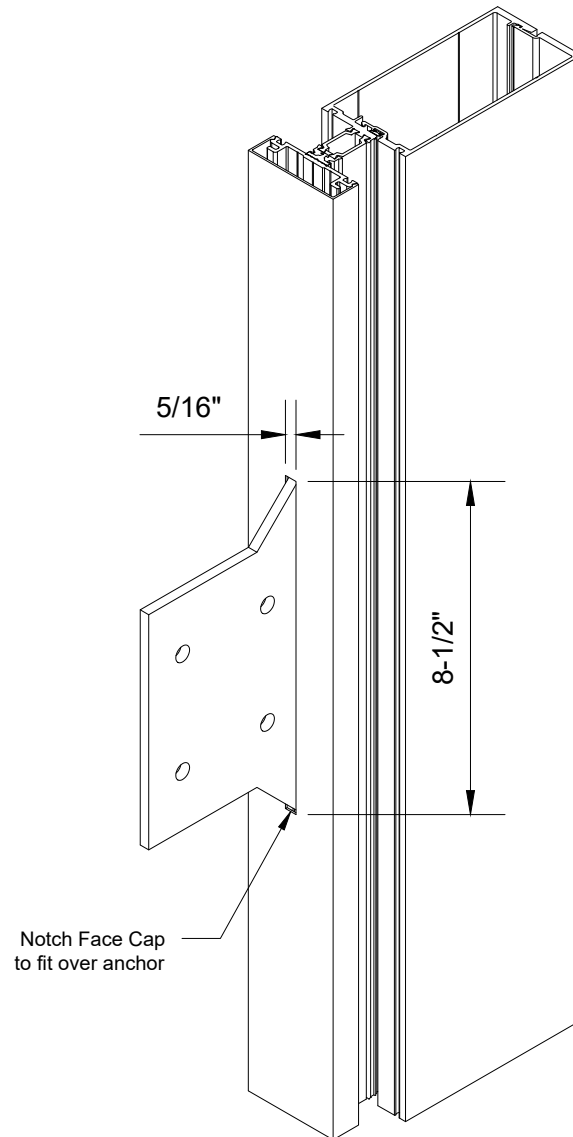

Figure 46
- 7) The face cap will be notched at sunshade anchor to fit over the sunshade anchor blade. See FIGURE 46. Face cap may also be notched at each end and spliced at center of anchor. WW-216 face cap shown, minimum 3/4" deep cap required for Reliance-TC SS. Install caps per OBE standards as shown in Reliance installation manual.